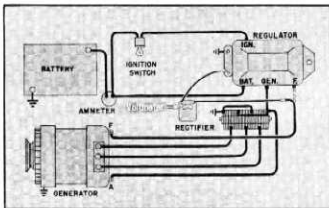

Fig. 37
2. To isolate a low or no charging rate trouble make a continuity check by first connecting a voltmeter (fig. 37).